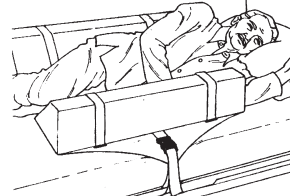

Fig. 6
- Place resident between the bolsters so that one supports him/her from behind and the other prevents the resident from rolling forward. (Fig. 6)